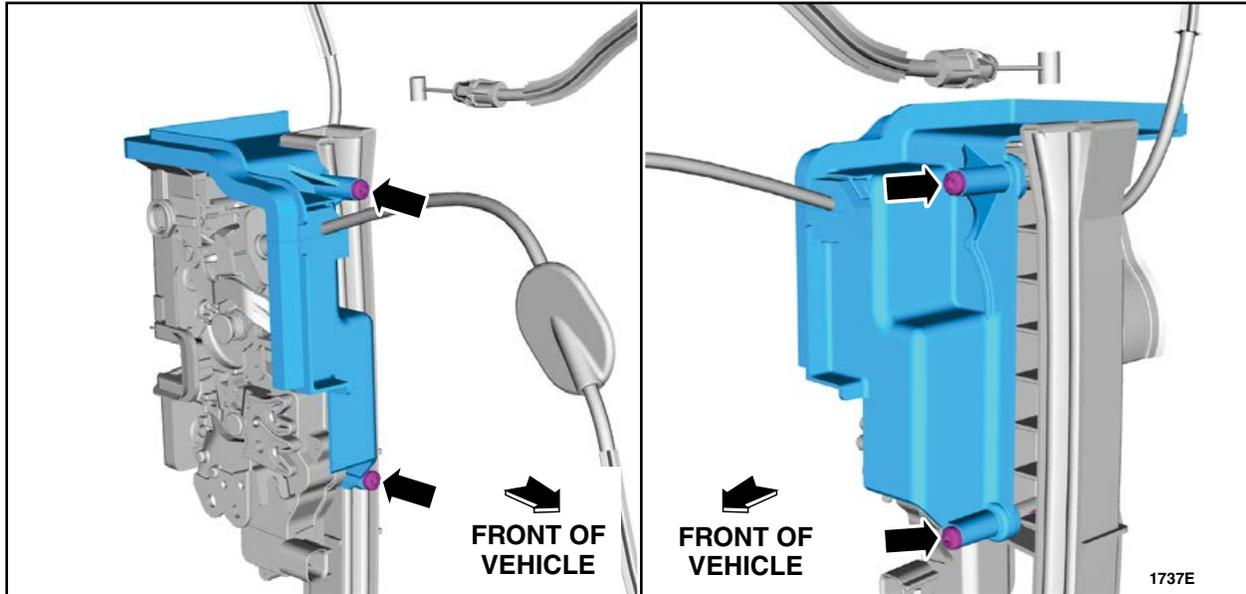

FIGURE 57
5. Install the door latch water shield into position. See Figure 57.
6. Install the *new* screws into the top and bottom holes of the shield. See Figure 57.